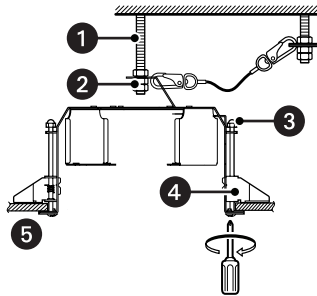

Figure 24. Secure the Mount Bracket to the Ceiling
Turning the ceiling board fixing screws clockwise secures the mount bracket by tightening the ceiling board between the bottom of the mount bracket and the ceiling board fixing bracket (refer to Figure 24). The recommended tightening torque is 0.78 N·m (0.58 lbf·ft).
- ① First Anchor Bolt
- ② Double Nuts
- ③ Ceiling Board Fixing Screw
- ④ Ceiling Board Fixing Bracket
- ⑤ Ceiling Board
7. Attach double nuts (not supplied) to secure the mount bracket to the first anchor bolt (refer to Figure 24).